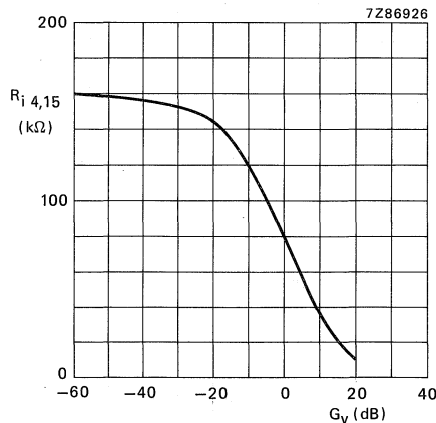

Fig.3 Input resistance (R_i) as a function of gain of volume control (G_v). Measured in Fig.1.
- Equation for input resistance (see also Fig. 3)
The format of data input signals is shown in figures 3, 4 and 5.